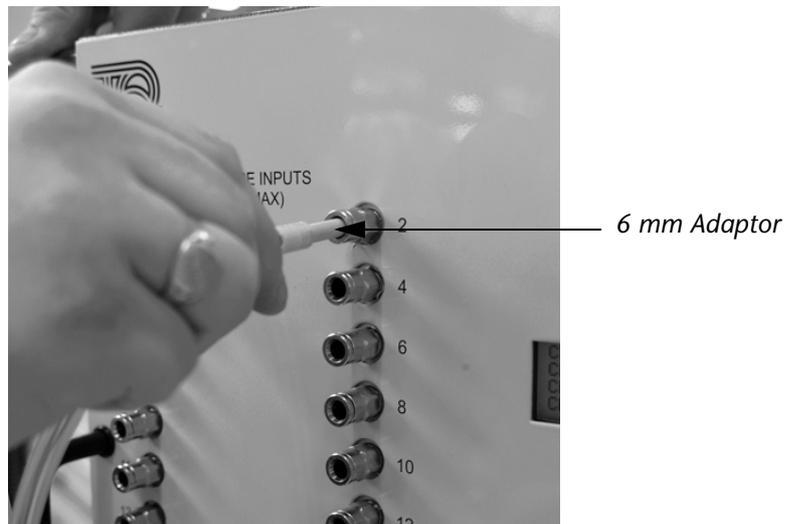

Figure 5 Fit the 6 mm Adaptors to your Pipework, then Insert the Adaptors into the Sockets
4. A set of 6 mm adaptors are supplied with the AFA6 module. Fit these adaptors to the ends of your pipework, then insert the adaptors into the pressure sockets of the AFA6 module (see Figure 5).